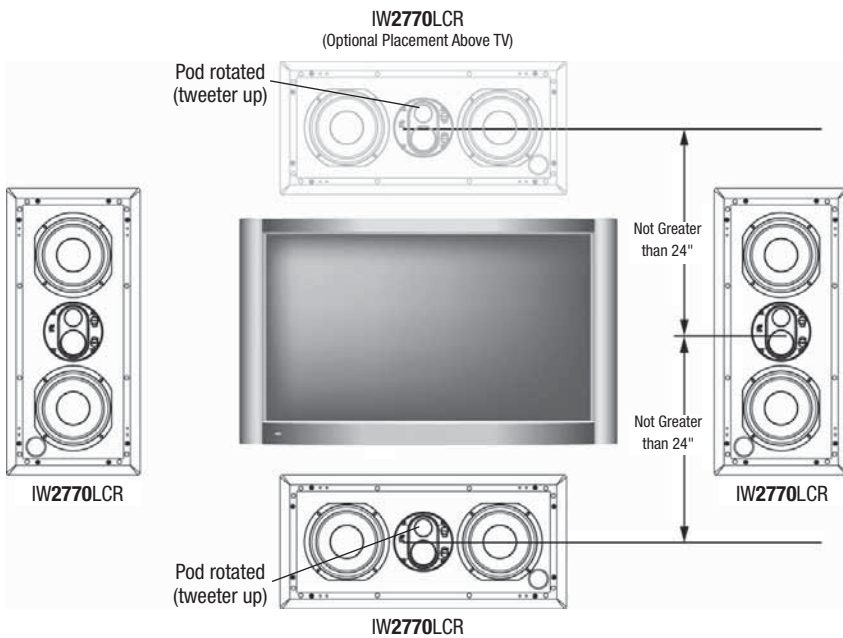

Figure 3.
As for placement height, place front left and right loudspeakers on either side of the picture source so that their tweeters are not more than 24 inches above or below the center-channel loudspeaker's tweeter (see **Figure 3** on page **7**).
- *In a typical installation, place the loudspeaker horizontally, directly above or below the television or projection screen. Try to ensure that the loudspeaker is not placed too high relative to the left and right loudspeaker, as shown in **Figure 3**.*